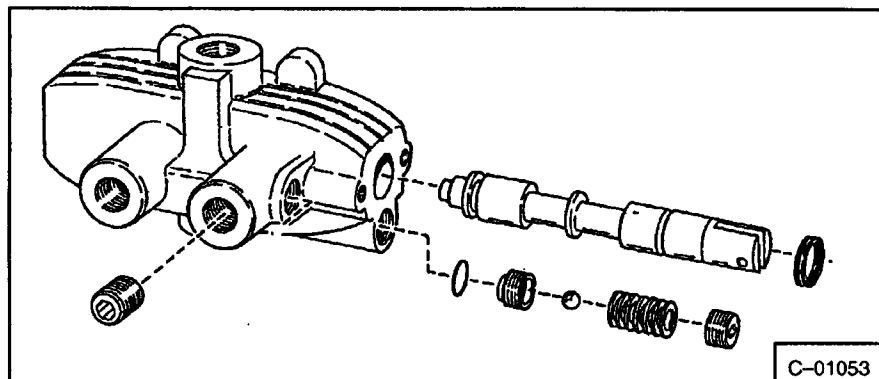

Fig. 4-13 Add Shims To Jet Screw Plug
3. If plug becomes overtight while increasing the pressure, a shim can be added between the set screw plug and spring (Fig. 4-13).